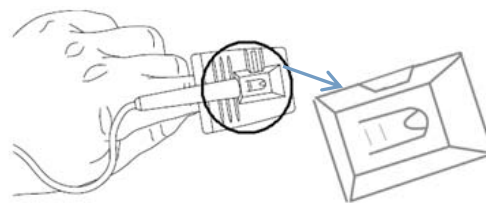
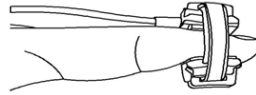

Figure 2 Finger Rubber Sensor
Figure 4(A/B) Y-type Sensor on Finger/on Sole
3. For Adult Finger Rubber SpO₂ Sensor, insert one finger (index finger is preferred, but middle or ring finger with proper nail length is possible as well) into the sensor according to the mark on the sensor cap, as shown in Figure 2. Note that the finger should be inserted deeply enough so that the light emitted from the opto-sensor (at one side of Y-type sensor) will transmit through the finger bone for light scattering before reaching to the receiving part of the Y-type sensor.
4. For Universal Y-type with Rubber Wrap SpO₂ Sensor, it can be wrapped onto finger or sole (especially for infant). This sensor is shown in Figure 2 with open status, the rubber wrapper can be removed from the Y-type sensor for cleaning, the wrapper fixation can be adjusted for sensor alignment and proper tightness. Place the Y-type sensor into its seating position within the wrapper and open the wrapper belt before wrapping onto finger or sole. When used on finger, put the finger inside the wrapper so as it is between the two sides of Y-type sensor, then wrap the wrapper belt around the sensor as illustrated in Figure 4(A). When used on sole, place the sole within the wrapper and wrap it up around the sole, then tighten the rubber belt with proper force as illustrated in Figure 4(B), it is strongly recommended to use self-adhesive gauze to fix the sensor cable nearby the measuring site, so that the relative moving between the sensor and the part to be measured could be avoided to increase signal quality.